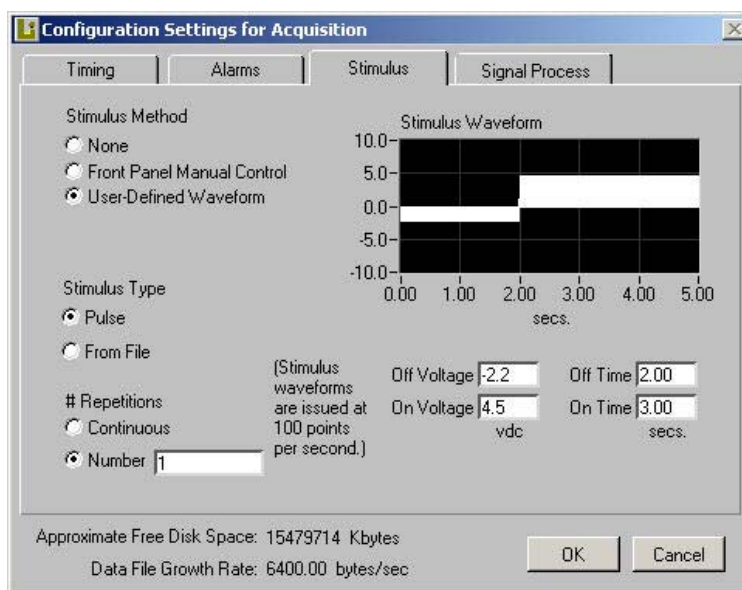

Figure 2-9. Configuring a Stimulus Pulse
- **Stimulus Type, Pulse**—Defines a pulse waveform for analog output stimulus. A graphical representation of the pulse waveform appears in the Stimulus Waveform graph. The pulse waveform is initially off for the time you specify and then turns on for the time you specify. Figure 2-9 shows the controls that appear when you select this option: